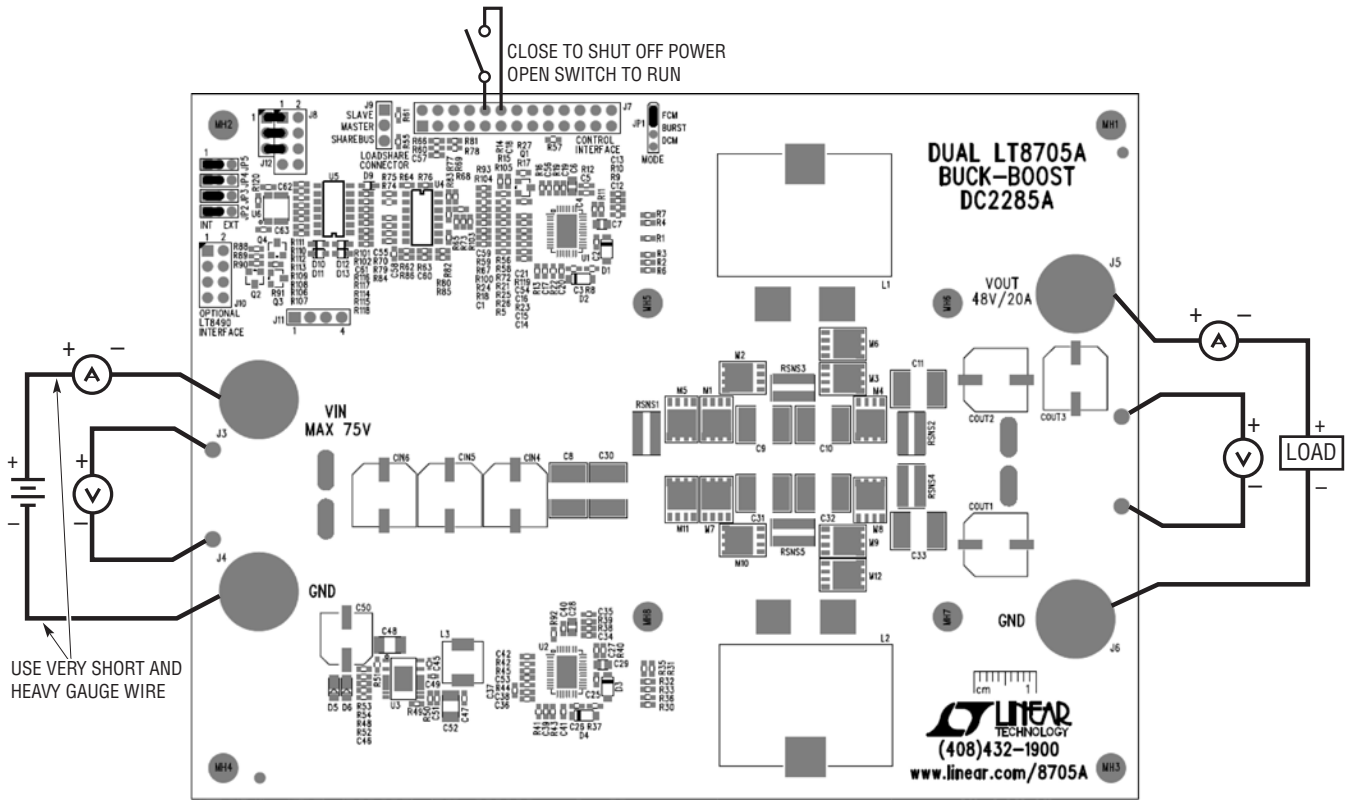

Figure 2. Proper Measurement Equipment Setup
1. Demonstration circuit 2285A is easy to set up to evaluate the performance of the LT8705A. Refer to Figure 2 for proper measurement equipment setup and follow the procedure below. Make sure the configuration jumpers are set correctly.